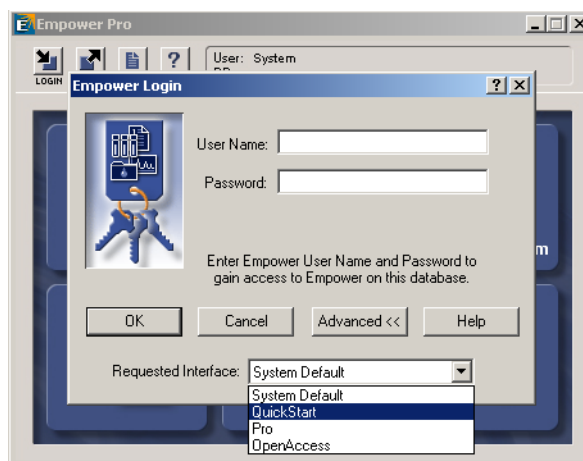

Figure 3-2 Empower Login Advanced Screen (Workstation)
5. Click **Advanced**, then select **QuickStart** from the **Requested Interface** list (Figure 3-2). Your system administrator determines which interfaces appear in the list and which one will be your default interface. Click **OK**.